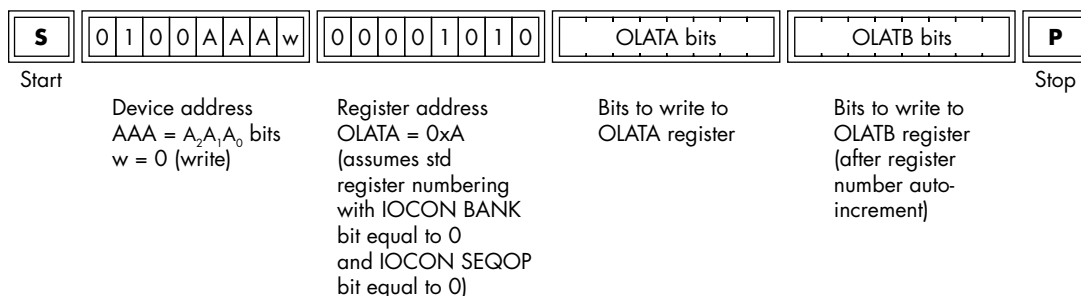

Figure 13-10: GPIO (OLAT) 16-bit sequential write operation
5. Write the second set of OLAT bits (OLATB) to the I²C bus (see Figure 13-10). This is optional on MCP23017 (SEQOP = 0, only).